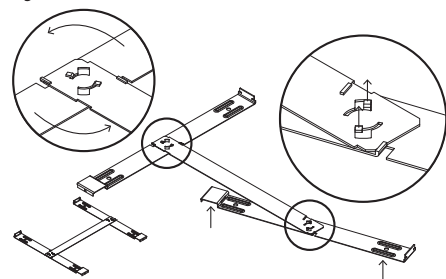

Fig. 3
- Attach the panel to the mounted H-bracket as shown in Fig. 3.